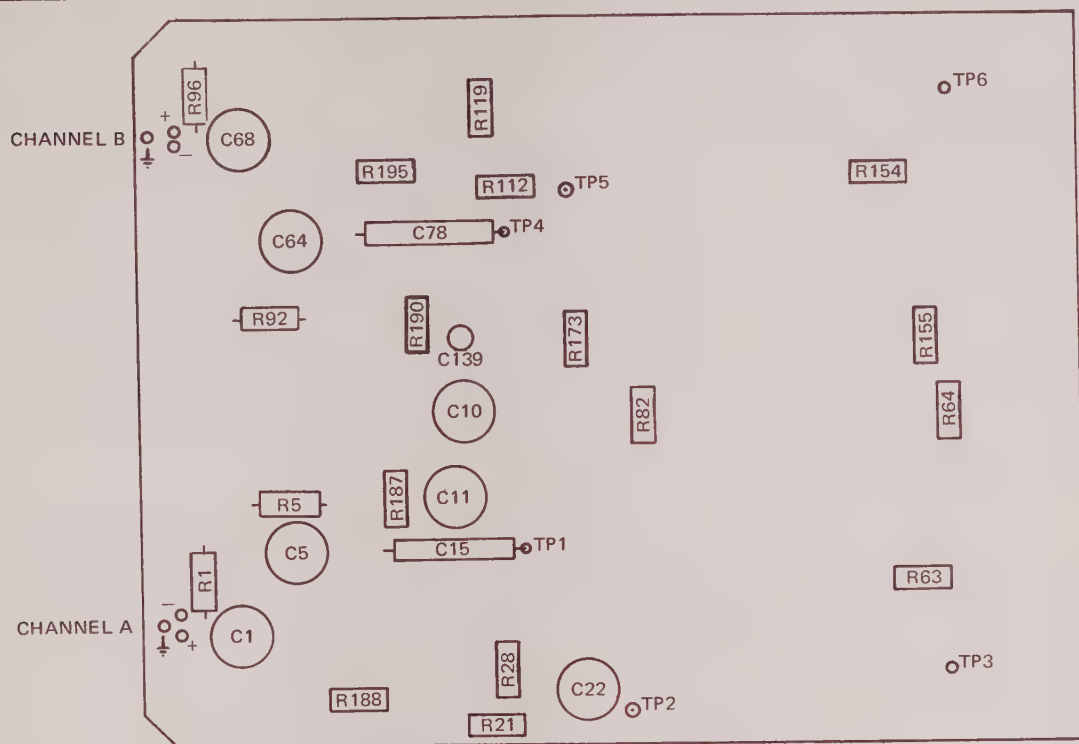
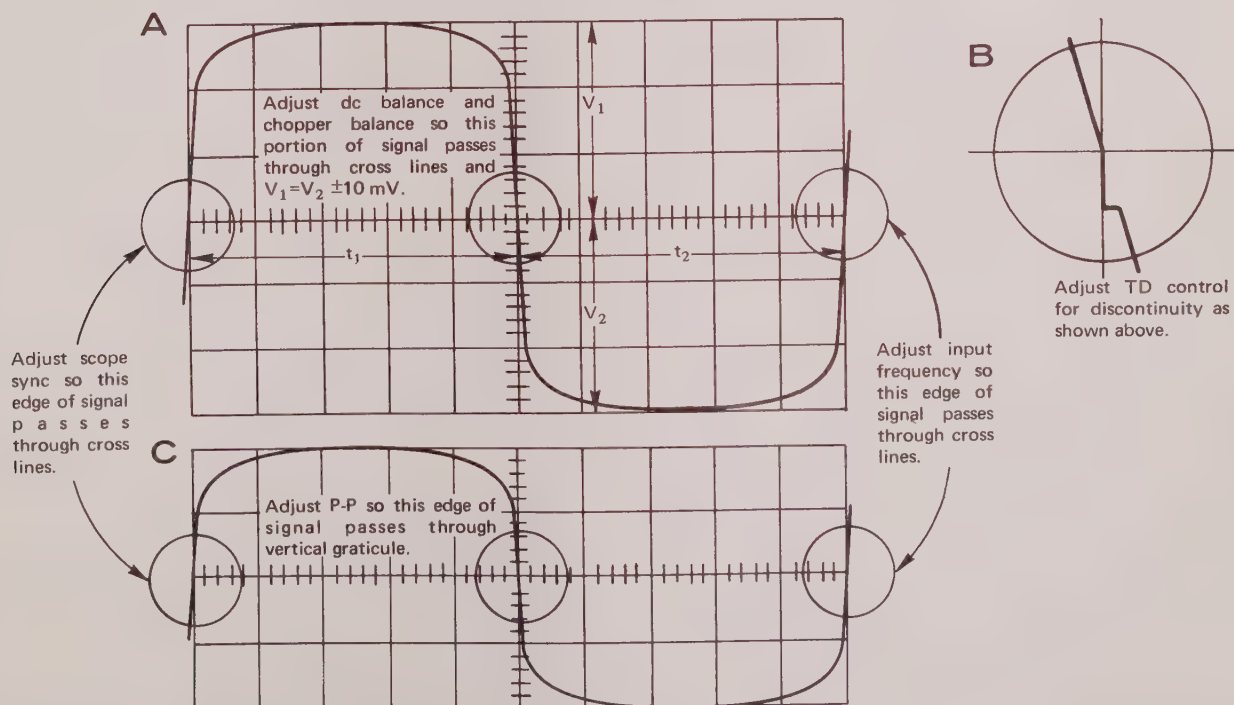

Figure 4-3. Zero Crossing Board Adjustment Locations
Figure 4-4. Oscilloscope Calibration Displays
17. Connect the scope probe to Channel A test point TP2 (Figure 4-3) of the Zero Crossing Board. The oscilloscope should display a waveform similar to the one shown in Figure 4-4[B].
21. Adjust TD ADJ R63 until top of tunnel diode trigger is at zero volts dc ($\pm 1 \text{ mV}$) as shown in Figure 4-4[B].
24. Increase the input signal amplitude to both channels to 1 V rms (2.8 V p-p). If reading changes more than $\pm 0.1^\circ$, adjust PK-PK ADJ R21 and R112 for accurate time symmetry at test points 2 and 5, as shown in Figure 4-4[C].